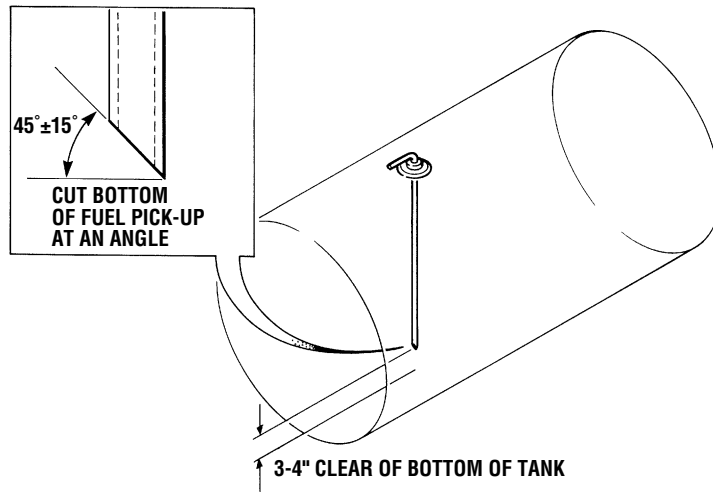

Figure 3-37 Fuel Pick-up Depth
1. Determine the depth of the fuel tank at the desired fuel pick-up location. Cut the fuel pick-up 3 to 4" shorter as shown in Figure 3-37.